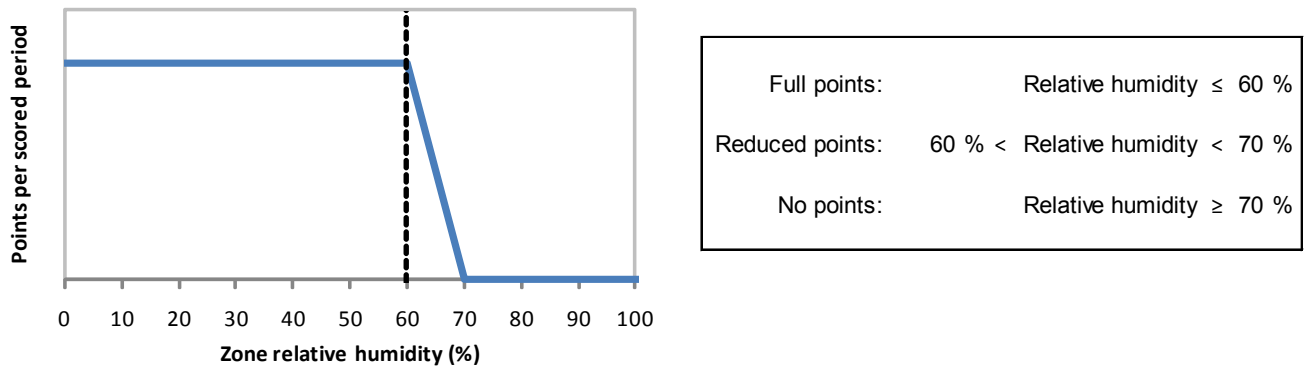

Figure 5: Scoring function for the Temperature Subcontest
- Reduced points are earned if the time-averaged interior relative humidity is between 60.0% and 70.0%. Reduced point values are scaled linearly, as shown in Figure 5.